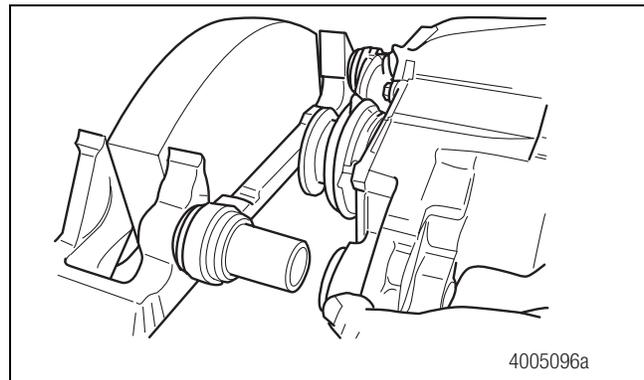

Figure 5.25
2. Carefully slide the housing assembly onto the slide pins. Be careful not to damage the slide pin boots when you install the housing assembly onto the slide pins. Figure 5.25.